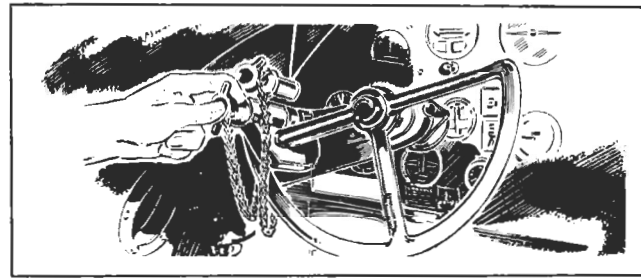

Figure 63—Locking Ailerons
a. LOCKING AILERONS.—Rotate the pilot's control wheel 20 degrees counterclockwise, place the yoke lock over the left-hand spoke, and press it firmly into the base plate. Remove the elevator key after turning it 90 degrees in the key hole of the yoke lock. (See figure 63.)